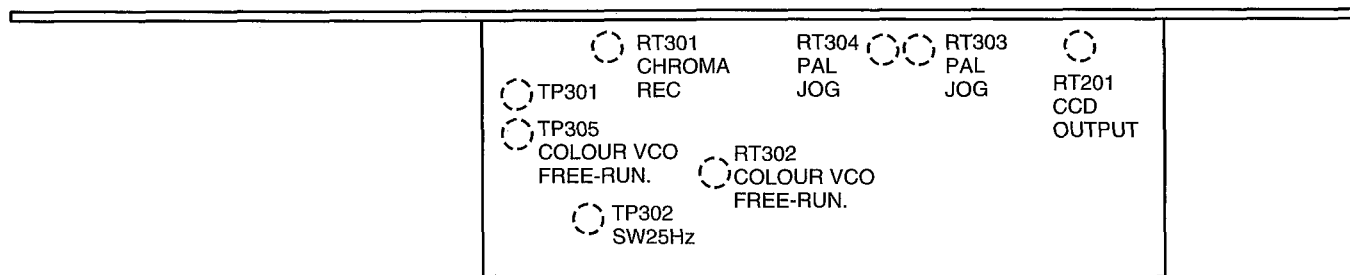

Fig. 4-5 Y/Chroma (WYC) Circuit Board [Side B]
(2) Colour VCO free-running adjustment (See Fig.4-5)